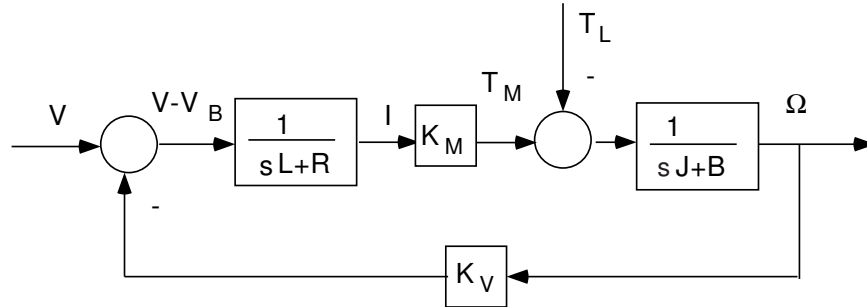

Figure 1: DC Motor
2. Consider a DC motor, as shown in Figure 1. The DC motor in the EECS 461 lab has parameter values:  $K_M = 0.0302$  N-m/A,  $K_V = 0.0302$  V/(rad/sec),  $R = 0.317$  ohms,  $L = 0.0000823$  H,  $J = 1.380 \times 10^{-5}$  N-m/(rad/sec)2, and  $B = 0.00131$  N-m/(rad/sec).